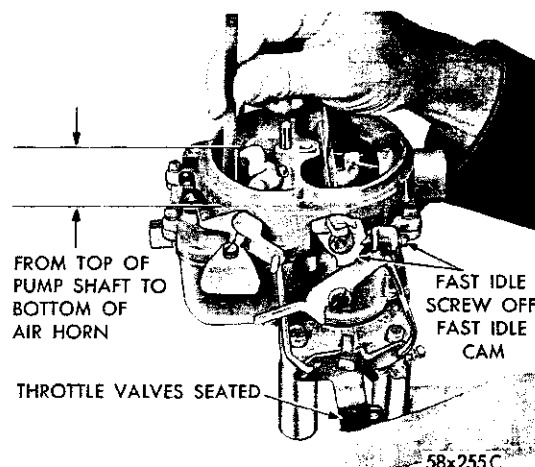

Fig. 31—Measuring the Accelerator Pump Travel
(1) Back off the idle speed adjusting screw. Open the choke valve so that the throttle valves can be completely seated in the bores. Be sure that the pump connector rod is installed in the center hole of the throttle lever.
(2) Close the throttle valves tightly. Measure the distance between the top of the air horn and the end of plunger shaft, as shown in Figure 31. This measurement should be 1" + or - $\frac{1}{64}$ inch.